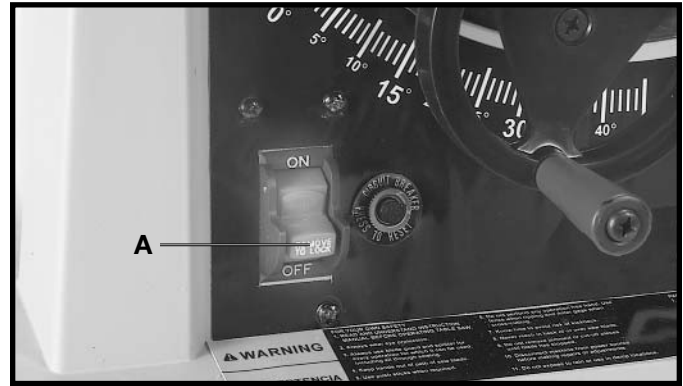

Fig. 31
The on/off switch (A) Fig. 31, is located on the front of the saw cabinet. To turn the saw **“ON”** move the switch (A) to the “ON” position. To turn the saw **“OFF”**, move the switch (A) to the “OFF” position.